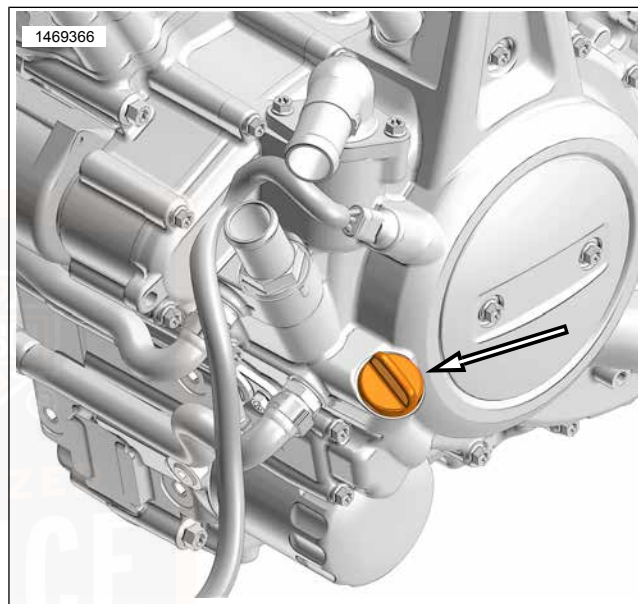

Figure 54. Engine Oil Filler Plug/Dipstick
- a. See Figure 54. Remove filler plug/dipstick.